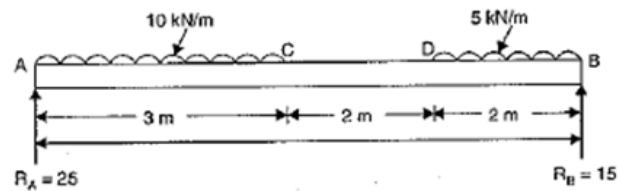

Figure 2
- Draw the S.F and B.M diagrams of a simply supported beam of length 7 m carrying uniformly distributed loads as shown in Figure 2. [7M]